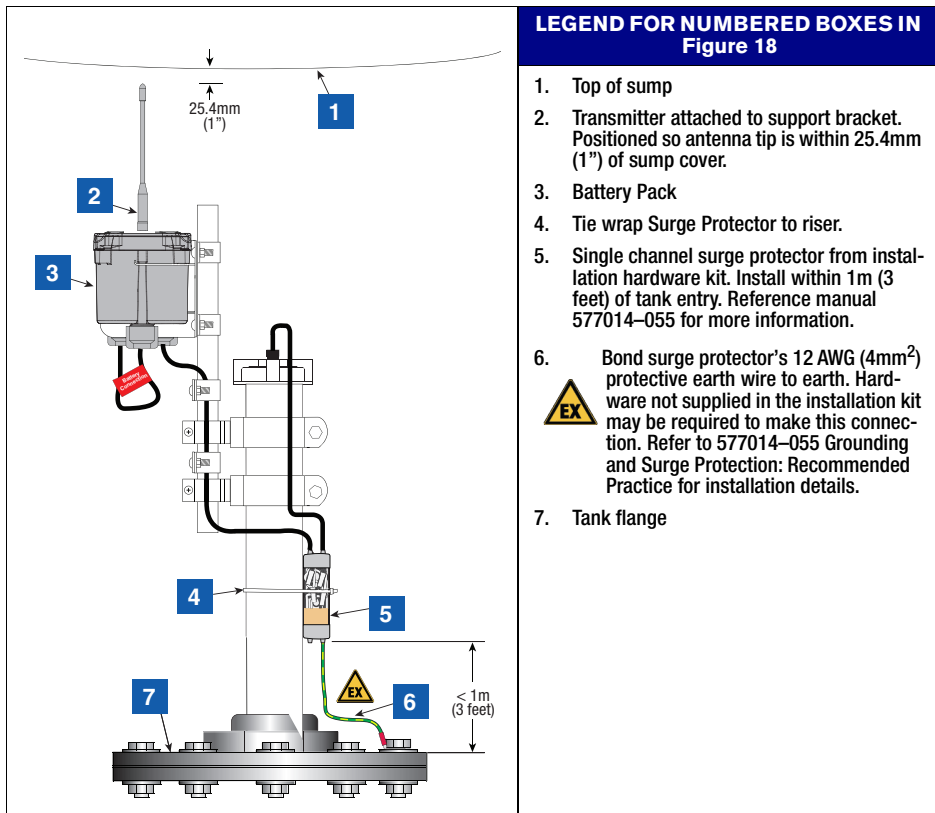

Figure 18. Example Mag Probe Transmitter Cable Connections
7. Secure cables to the 12.7mm (1/2") conduit using (2) 12.7mm (1/2") plastic clamps, (2) #10–32 x 25.4mm (1") screws, and (2) #10–32 hex nuts included in the kit.
8. Refer to Figure 18 for an example of a completed Transmitter installation within a sump.